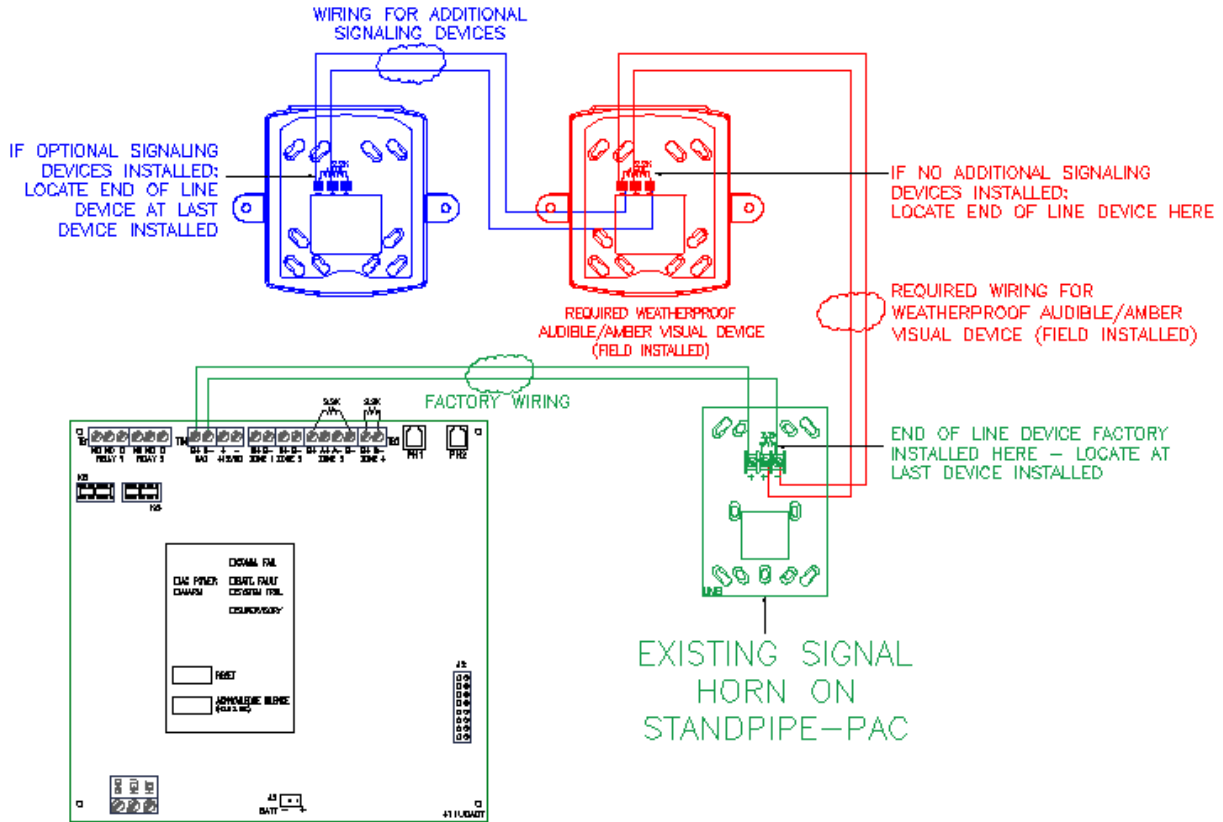
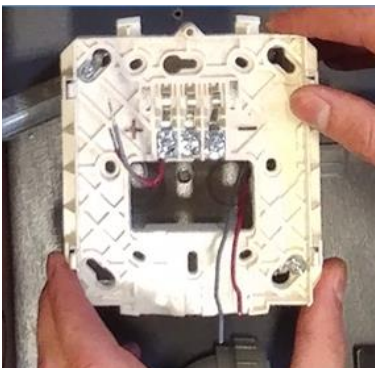

Figure 12 – Wiring Diagram – Notification Appliance Circuit
Figure 13.7
3.3.5.5.1 Signal Wiring. See Figure 12.
3.3.5.5.2 Factory-Installed Signal Horn. An audible signal horn is factory-installed and wired to the notification appliance circuit of the **STANDPIPE-PAC™** unit. See **GREEN** section of Figure 12.
3.3.5.5.3 Required Remote Weatherproof Audible / Amber Visual Device. Per Boston FD TCM3-51725, a remote weatherproof audible / amber visual device is to be installed immediately outside the location of the **STANDPIPE-PAC™** unit. Wire and connect this device as shown. If this is the last device in line, re-locate the end-of line resistor from the factory-installed signal horn to this device. See **RED** section of Figure 12. Mount identification nameplate near device.
3.3.5.5.4. Optional Signaling Devices. If additional audible devices are desired, connect these devices to the notification appliance circuit serving the signal horn on the **STANDPIPE-PAC™** unit. See Appendix D for additional information, including power capacity of notification appliance circuit. See **BLUE** section of Figure 12. Additional horns are available from UNITED Fire Systems – P/N 03-100006-201.
9. See **Figure 13.7** Re-install Signal Horn base plate to back box on **STANDPIPE-PAC™**.
10. See **Figures 13.7, 13.8** and **Figure 12 Wiring Diagram**. Strip ends of wire installed in Step 8. Attach wires removed in Step 5 and wires installed in Step 8 to Signal Horn base plate terminals.
<ul style="list-style-type: none"> ✓ Do make sure the Signal Horn covers are clicked firmly into place onto the Signal Horn base plates once wiring is complete. ✓ Do use a minimum of 14 AWG size wire. ✓ Do wire additional devices per Figure 12. The end-of-line resistor must be moved to the last device in the circuit per Figure B. ✓ Do use RED and GRAY wire for (+) and (-) conductors so it is easy to maintain polarity. ✓ Do install the end-of-line resistor on the terminals indicated. ✓ Do ensure additional device(s) are 12VDC. 	<ul style="list-style-type: none"> ✗ Don't wire 115 VAC on this circuit. ✗ Don't mix up the polarity. Know the polarity at both ends of the wiring. Wire per polarity diagram. ✗ Don't exceed the current capacity of the circuit when adding additional horns to the STANDPIPE-PAC™. Each additional horn adjusted to FULL VOLUME draws 0.047 amps. As noted on page 1, the current for all external devices, including the factory-installed signal horn, is 1.0 amp. ✗ Don't branch the signaling circuit. Wire horns in parallel, from one horn to the next. See Figure 12: Wiring Diagram.